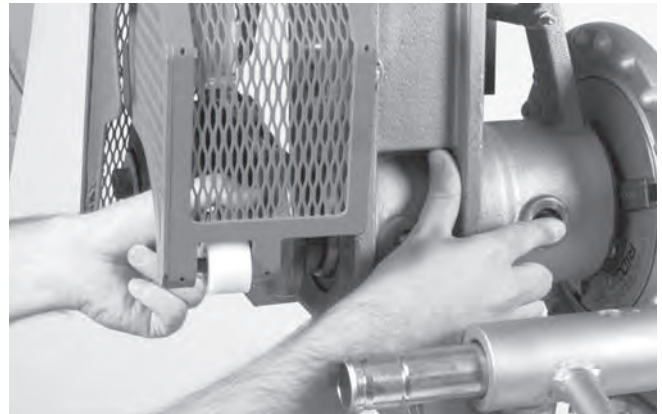
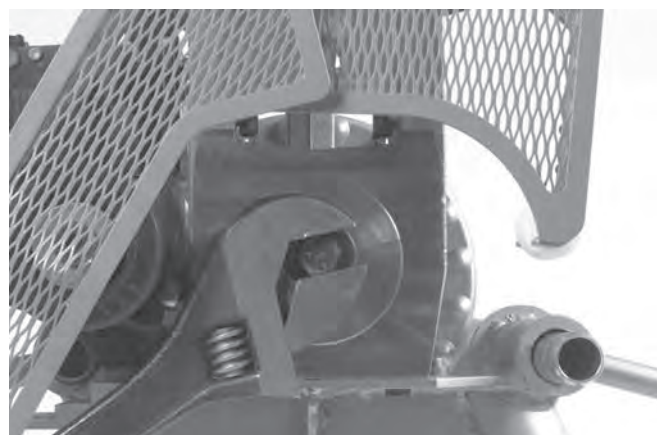

Figure 20 – Engaging Lock Pin and Removing Drive Roll
Figure 21 – Loosening The 5/8" Draw Bolt
5. Engage the locking pin in the drive shaft by manually spinning the drive shaft (*Figure 20*). Loosen the 5/8" draw bolt (15/16" hex) (*Figure 21*) and remove the drive roll.